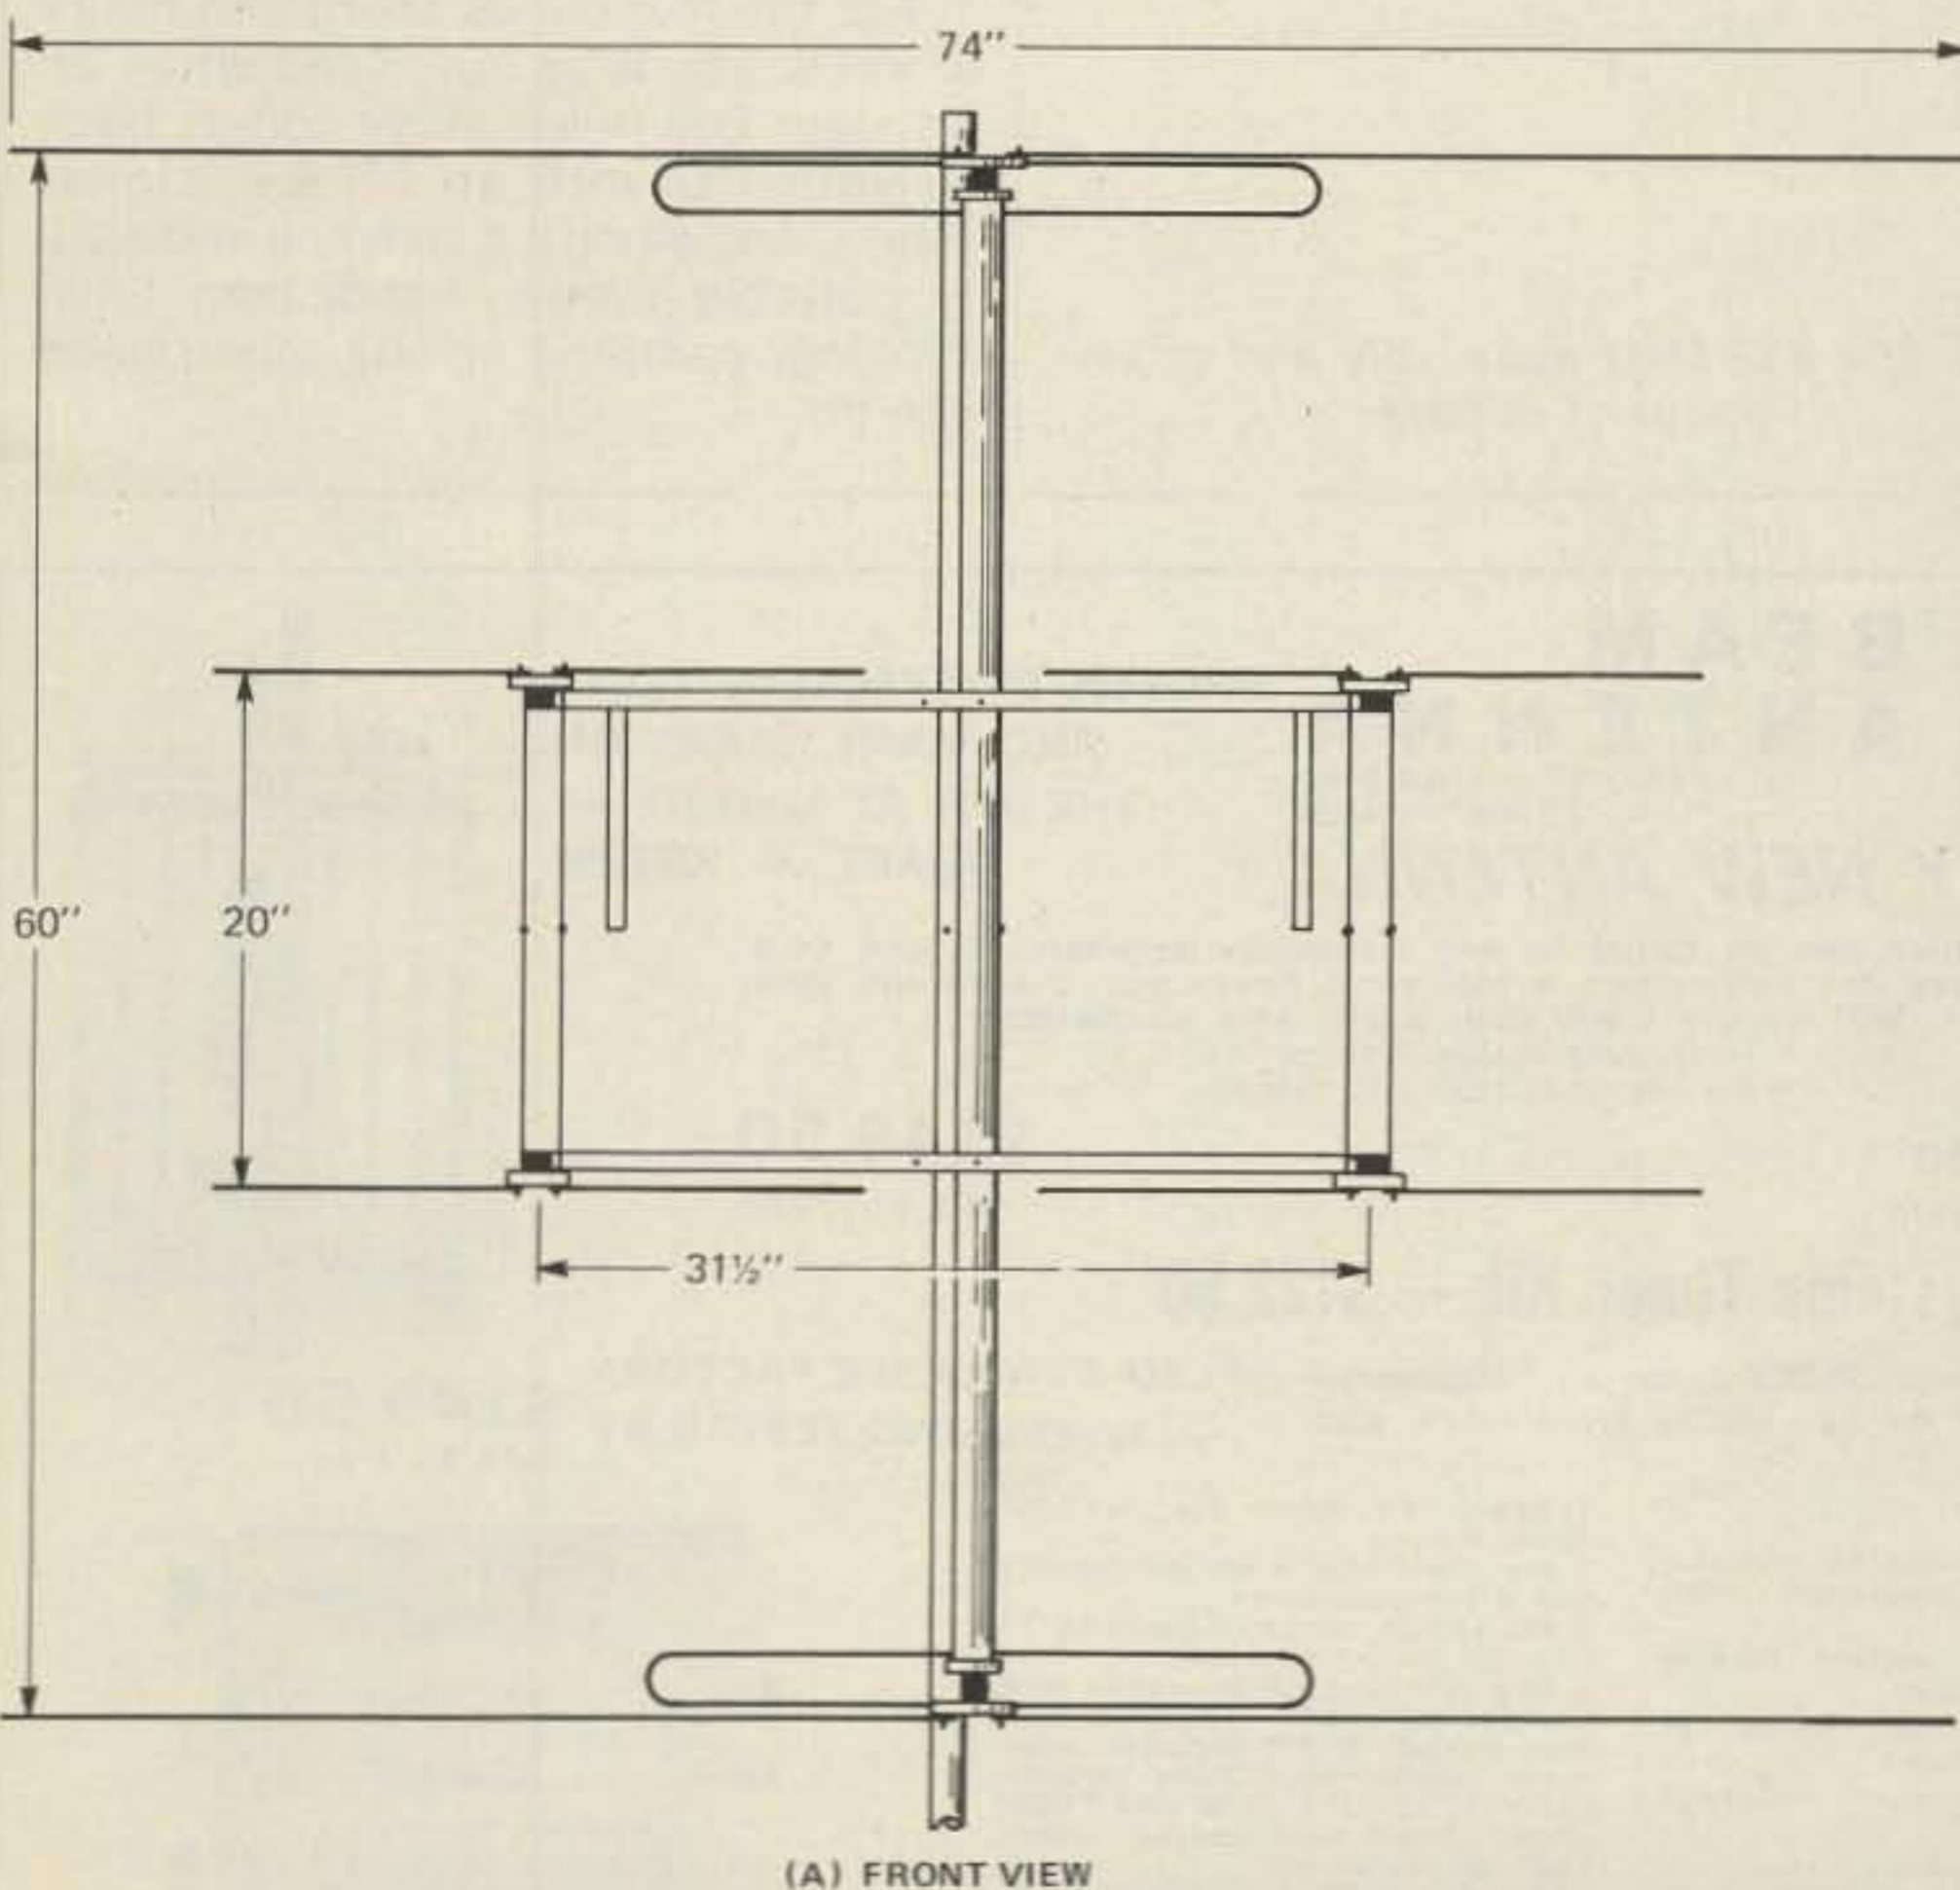

Fig. 1(A) Front view of the three band array. (B) Top view of the antenna. Dimensions are in inches.
reflector. But it's a good way to get 10-11 dB in a compact area with a low wave angle (Fig 1).
Fig. 1(A) & (B) show the overall setup. It would be well to construct the 432 job first and set it aside. Note that the plane of that array is entirely in front of the support structure, and the horizontal portion of the feed harness is behind the elements, so no pattern distortion occurs.